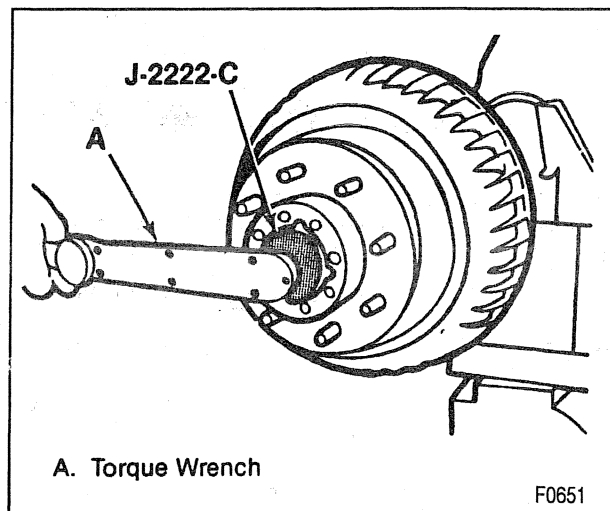

Figure 24—Tightening the Adjusting Nut
- Adjusting nut to 68 N.m (50 lbs. ft.) while rotating hub and drum assembly (figures 24 and 25).